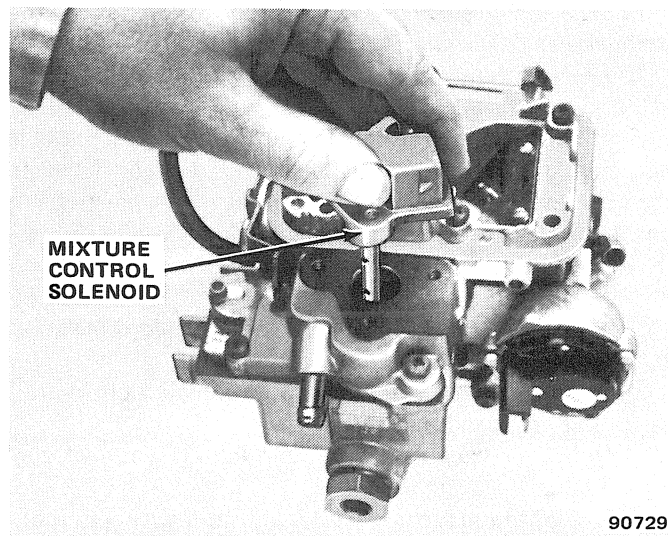

Fig. 1J-70 Carburetor Model E2SE—Mixture Control Solenoid Removal
(9) If equipped, remove two small screws that retain hot idle compensator valve (fig. 1J-71). Remove valve and seal from air horn. Discard seal. Hot idle compensator valve must be removed to gain access to short air horn-to-bowl attaching screw.